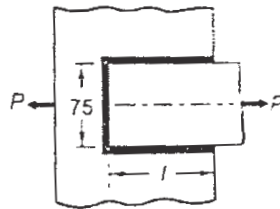

Figure 5. Welded joint
- b)** A plate 75 mm wide & 10 mm thick is joined with another steel plate by means of single transverse and double parallel fillet welds as shown in Figure 5. The joint is subjected to a maximum tensile force of 55 kN. The permissible tensile & shear stresses in the weld material are 70 & 50 N/mm². Determine the required length of each parallel fillet weld. [10]